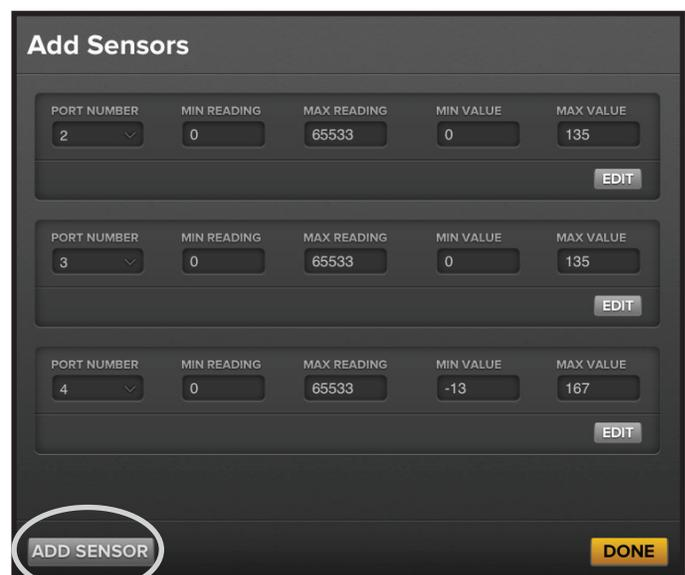

Figure 4—Add Sensors page
10. Fill in the Min Value and Max Value fields (Figure 4) according to the table below. Ensure all sensor types are recorded on page 54 of this manual. *Note: The values shown below will vary if you are using customer-supplied sensors instead of the sensors provided by Big Ass Fans. Consult the literature provided with the customer-supplied sensors for the min and max values.*